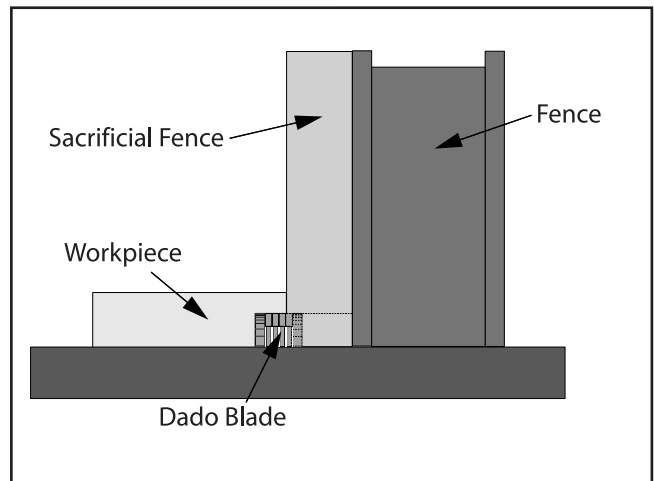

Figure 52. Rabbet cutting.
4. Adjust the fence and align the workpiece to perform the cutting operation as shown in Figure 52.